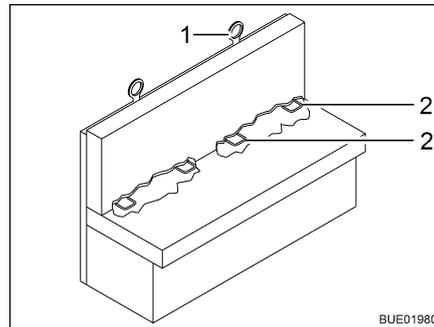

Fig. 24 ISOFIX child safety seat mounting system
If the vehicle is equipped with the ISOFIX child safety seat mounting system, the vehicle seats suitable for it are marked with the ISOFIX symbol. These vehicle seats have retaining brackets (Fig. 24,2) and another anchorage point at the top of the seat backrest (Top Tether) (Fig. 24,1). Use child restraint system suitable for ISOFIX. The child restraint systems possess connectors which are latched to the retaining brackets of the vehicle seat.
- If possible, fasten the child seat at the Top Tether (Fig. 24,1).